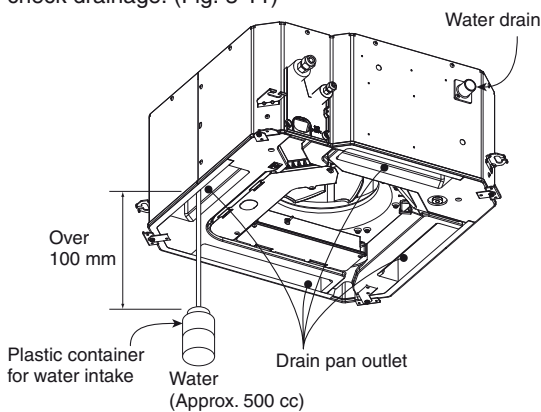

Fig. 3-11
- (1) Connect power to the power terminal board (R, S terminals) inside the electrical component box.
- (2) Slowly pour about 500 cc of water into the drain pan to check drainage. (Fig. 3-11)